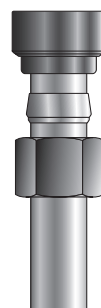
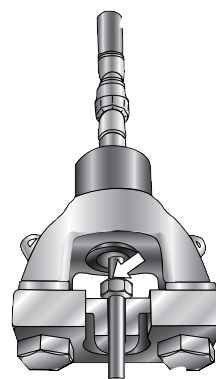

Figure 1
Figure 3
1. Assemble CPI™/A-LOK® nut, CPI™/A-LOK® Ferrule(s) and body die onto tubing as shown in Figure 1. Be sure that the tapered end of the Ferrule(s) point toward the body die.
3. Insert Tube Assembly, Figure 1 into Nut Die as shown in Figure 3.